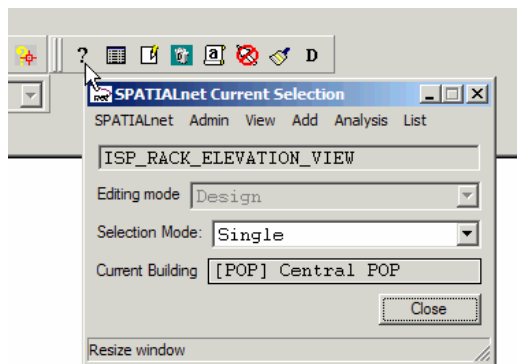

Figure 227 – Current Selection panel allows you to set Current Building.
**Note:** If you have an ISP view open already (a rack elevation, floorplan or schematic), **Current Building** will be set to the building containing the data in the view. If you do not have an ISP view open already, or you would like to check **Current Building**, click the **Current Selection** button on the **General** toolbar, and inspect or make a selection from the **SPATIALnet Current Selection Panel**. You can change **Current Building** by clicking on the field where the current value is displayed and making a selection from the pop-up list. See Figure 227, below for an example.